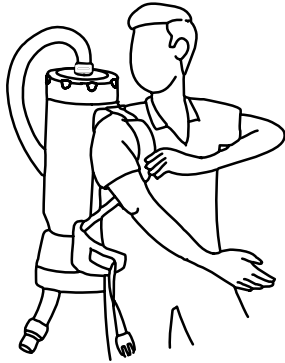

FIG. 3
5. Loosen the shoulder straps and waist belt. In an open area, lift the vacuum by one shoulder strap and slide your free arm into the other strap (Figure 3).